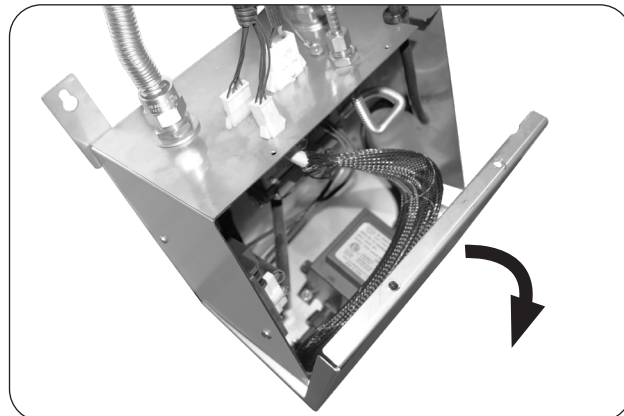

Fig. 38-2 Open control box
3. Carefully pull the cover plate and open the box (see Fig. 38-2).